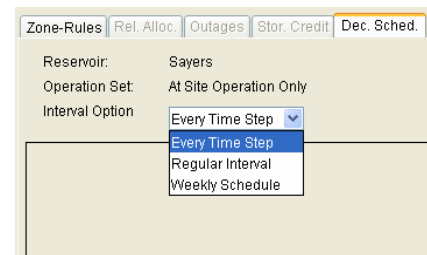

Figure 11.115 Decision Schedule Editor, List of Interval Options
2. **Dec. Sched.** The **Decision Schedule** tab becomes available (Figure 11.115) where the name of the **Reservoir** and its **Operating Set** appear at the top of the editor. Select an **Interval Option** from the list.